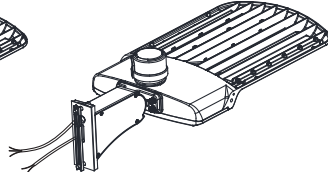
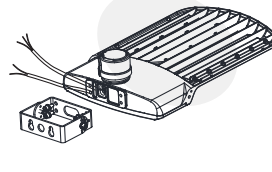

Figure 6
Figure 7
Step 2: the side | Install the bracket on the fixture, then cover id and tighten it. (Figure 6)
4. YOKE MOUNTING (YM)
Step 1: Remove the bracket mounting screws on the fixture and run the wires through the bracket. (Figure 7)